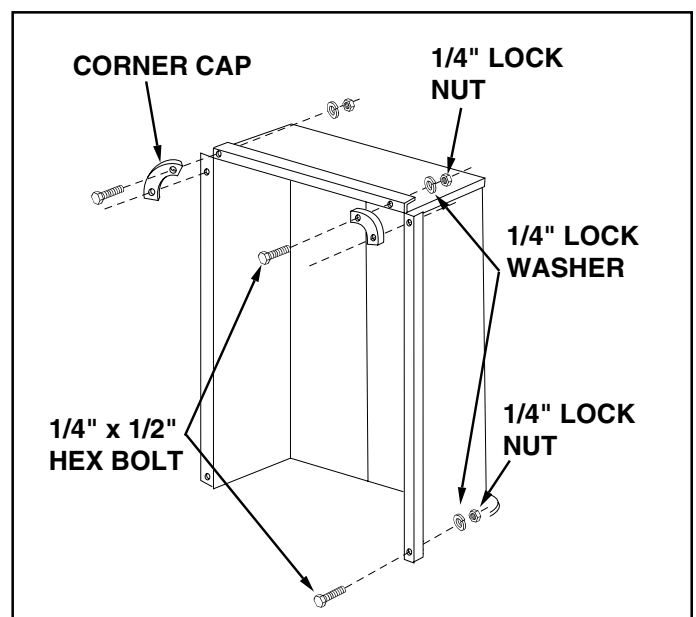

FIGURE 8
12. Assemble two front top corner caps using four 1/4" x 1/2" hex bolts, 1/4" lock washers and 1/4" hex nuts. Also assemble two 1/4" x 1/2" hex bolts, 1/4" lock washers and 1/4" hex nuts through top flanges and tailgate reinforcement bracket at the two rear corners. See figure 8. **TIGHTEN**.